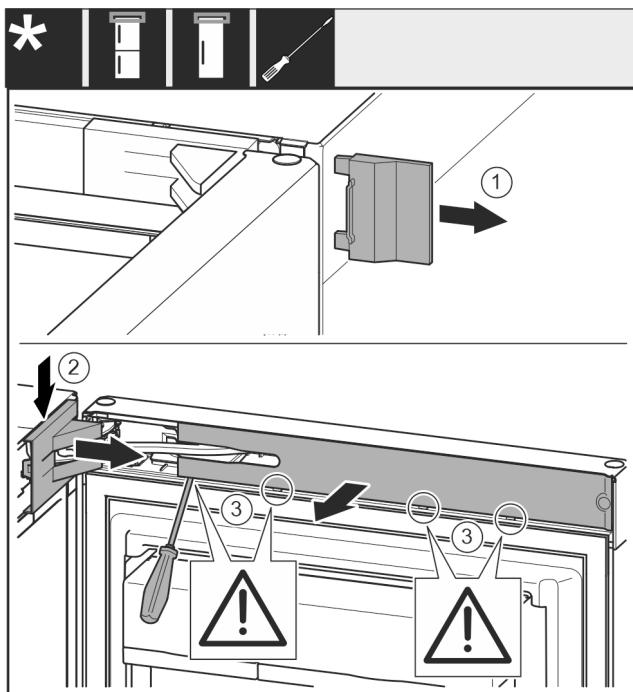

Fig. 7
► Remove the outer cover. Fig. 7 (1)
► Disengage and release the bearing bracket cover. Remove the bearing bracket cover. Fig. 7 (2)
► Unlatch the panel with a slotted screwdriver and swivel it to one side. Fig. 7 (3)